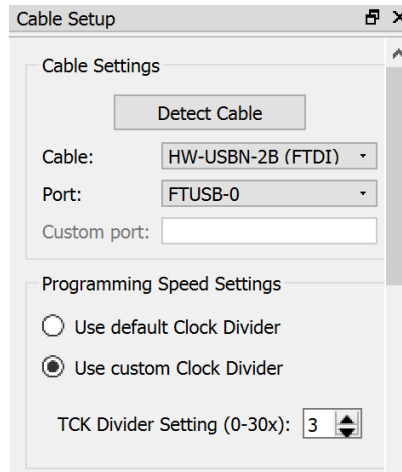

Figure 7.1. TCK Frequency Setting
- If you are getting a verification error while dumping the .bit file, try changing the TCK frequency to a value greater than 4. The TCK Divider Setting option is in the Cable Setup dialog box of the Lattice Radiant Programmer Window, as shown in Figure 7.1. Restart programming by clicking the Program button.